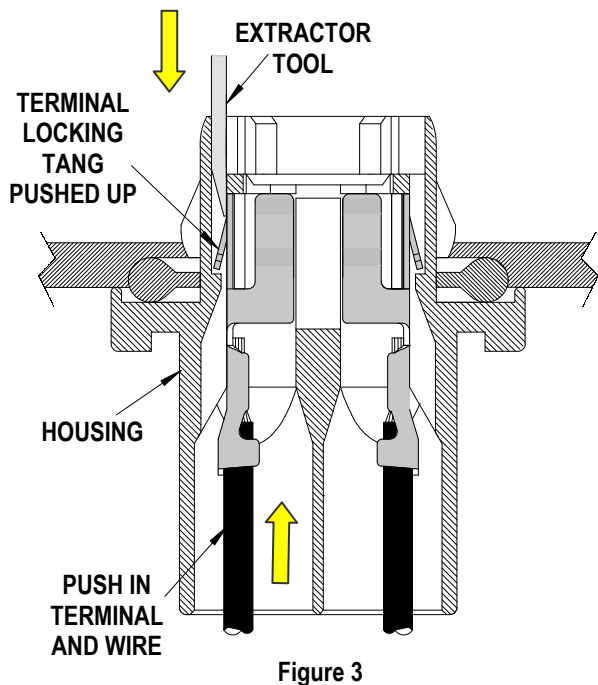

Figure 3
4. Pull the crimp wire back through the connector slot in the arrow direction as shown in Figure 3.